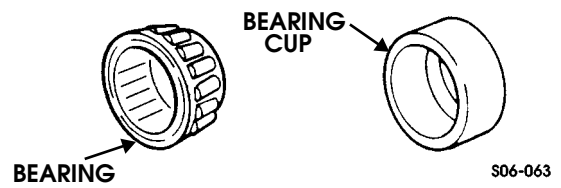

Figure 9-76: Bearing and Bearing Cup
4. Inspect all bearings and bearing cups for damage (Figure 9-76).